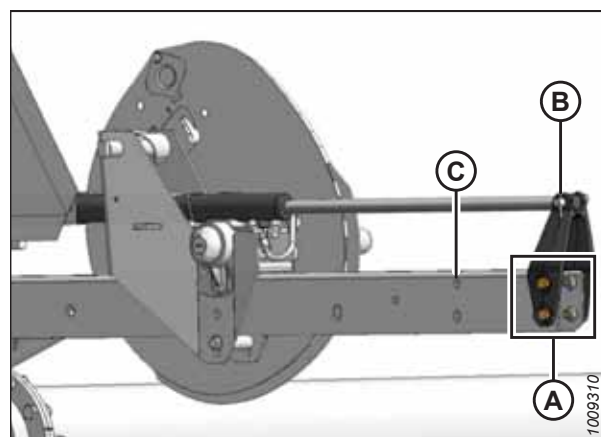

Figure 3.75: Forward Position
6. Remove four bolts (A) securing cylinder bracket (B) to the reel arm.
7. Position reel until bracket (B) lines up with desired position holes (C):
- Forward position, refer to Figure 3.75, page 85